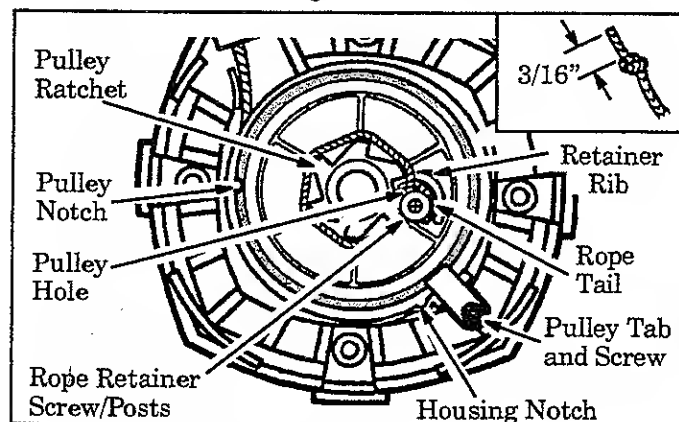

Figure 34
9. Hand turn the pulley clockwise as far as it will go. Then, turn the pulley counterclockwise until the pulley notch is aligned with the housing notch next to the pulley tab and screw. Figure 34.
15. Insert one end of the rope through the handle and secure with a knot. Leave a 3/16" tail behind the knot. Figure 34 (inset).
16. Insert the other end of the rope through the rope exit hole into the inside of the housing, into the pulley and up through the pulley hole. Figure 34.